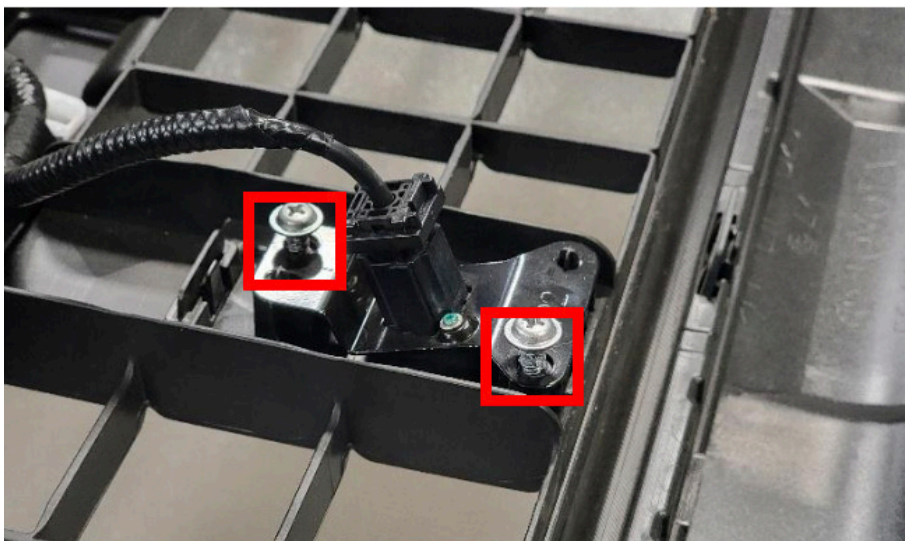

Figure 14.
13. Start to disassemble the OE bumper fascia by removing the front camera. Do this using a Philips head screwdriver to remove the two (2) screws holding it in place. Unplug the camera from the harness and set aside for installation in new bumper. Figure 14.